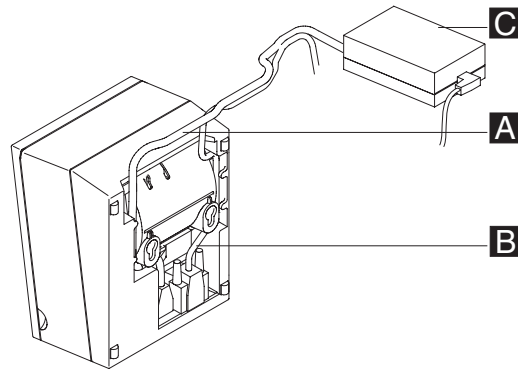

Figure 65. Attaching and routing the cables to the printer.
- a. Install the printer cables and route the cables as shown in Figure 65 on page 97.
4. Connect and route the RS-232 communication cable or Powered USB cable **A** and the power supply cable **B** as shown in Figure 65 on page 97.